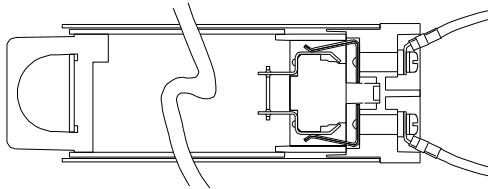

Figure 2: Close up view of the 'finger safe' test plug sockets that accept standard 4mm shrouded test plugs
2. A maximum of four (4) CT cassettes may be specified in a single group.
4. Refer to figure 2 for timing diagram of CT shorting and circuit isolation.